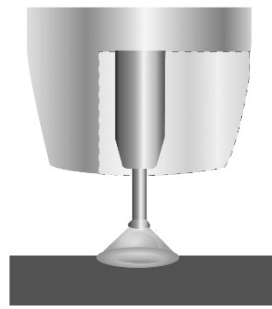

Fig. 31
5. An arc is created at the separation of the droplet and the heat and force of the arc flattens out the droplet into the weld pool. The heat of the arc melts the end of the wire slightly as it feeds towards the base metal (Fig. 31).